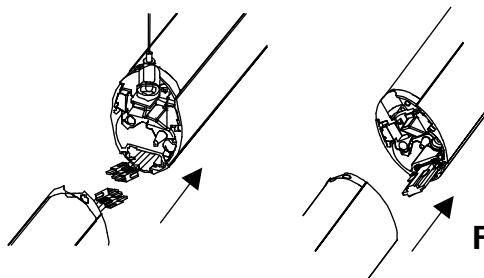

Figure 3
- A. Connect the wiring between fixtures before sliding the fixtures together. (Fig. 3)